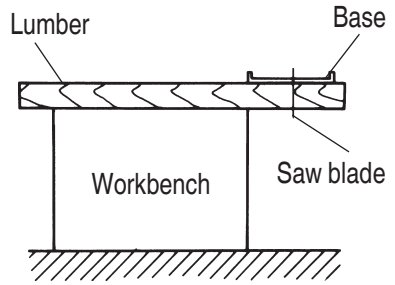

Fig. 1
4. **Prepare a wooden workbench (Fig. 1)**